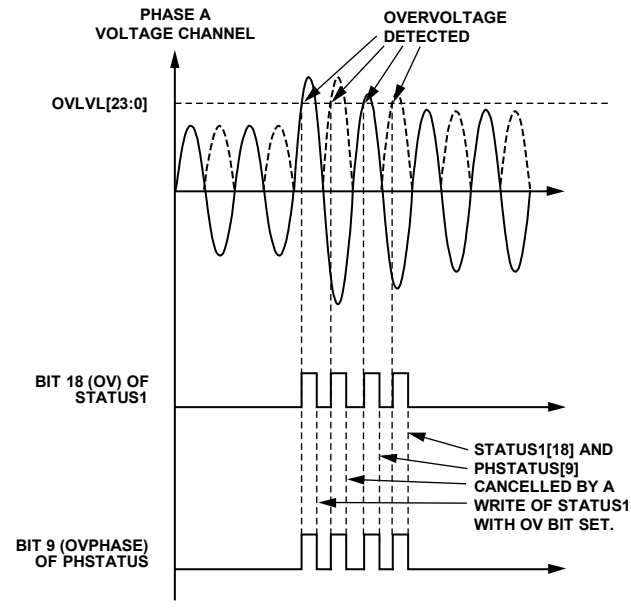

Figure 62. Overvoltage Detection
Status Bit 18 (OV) in the STATUS1 register and all Bits[11:9] (OVPHASE[2:0]) in the PHSTATUS register are cleared, and the $\overline{\text{IRQ1}}$ pin is set high again by writing to the STATUS1 register with the status bit set to 1. Figure 62 shows overvoltage detection in Phase A voltage. When the absolute instantaneous value of the voltage goes above the threshold from the OVLVL register, Status Bit 18 (OV) in the STATUS1 register and Bit 9 (OVPHASE[0]) in the PHSTATUS register are set to 1. Bit 18 (OV) in the STATUS1 register and Bit 9 (OVPHASE[0]) in the PHSTATUS register are cancelled when the STATUS1 register is written with Status Bit 18 (OV) set to 1.